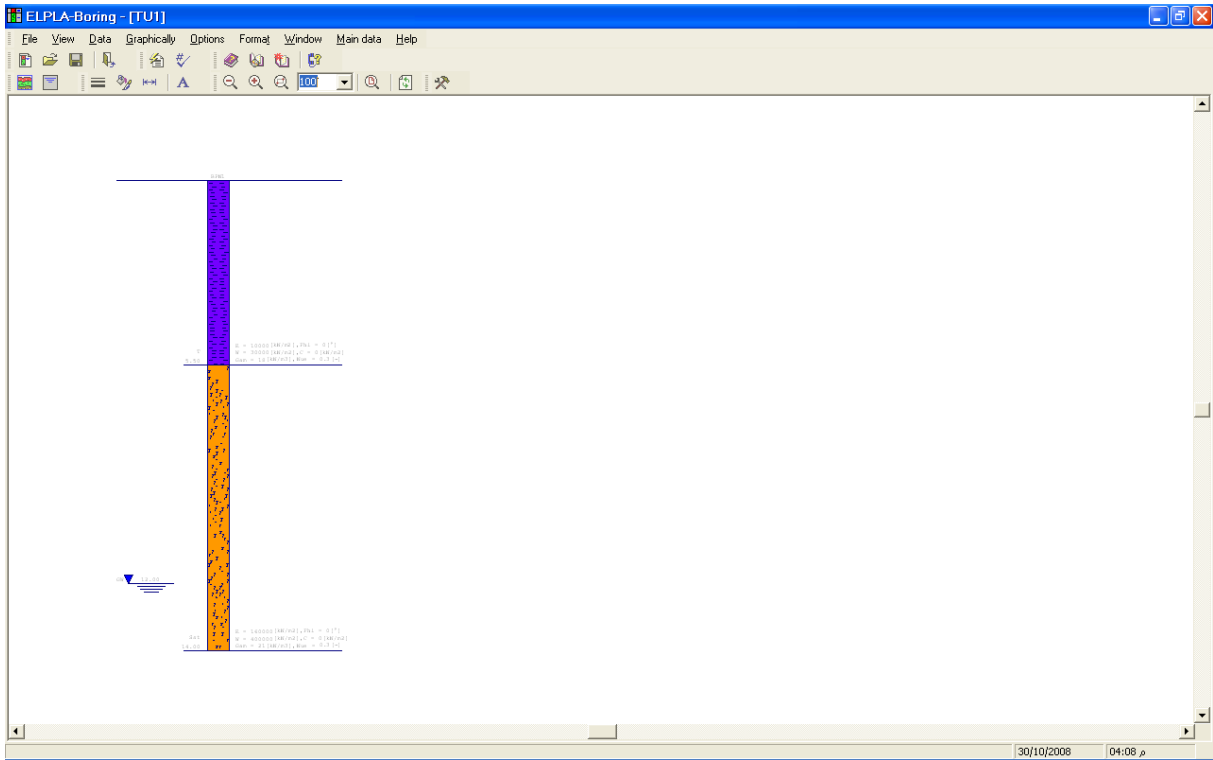
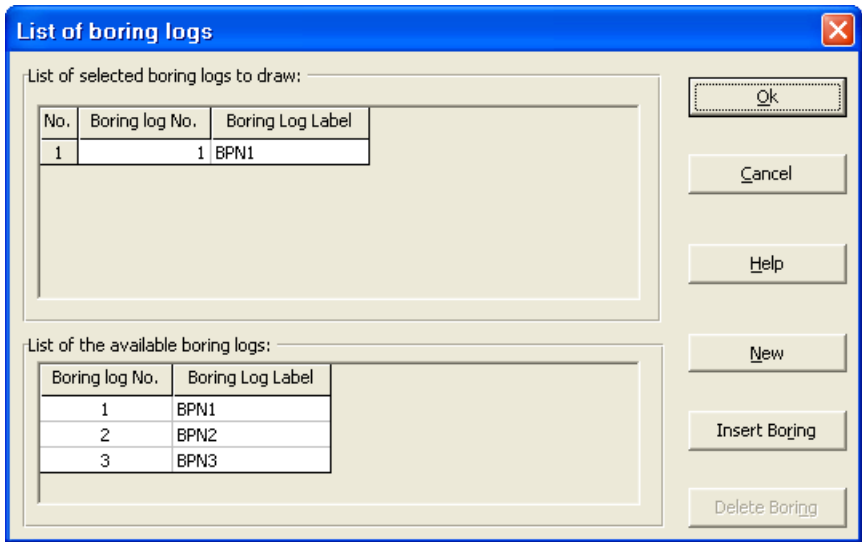

Figure 13-24 First boring log on the screen
Figure 13-25 "List of boring logs" list box
Now, after finishing the creation of boring logs, click "OK" button in "Soil data" dialog box in Figure 13-23 to see the defined boring logs on the screen where the user can control or modify the input data and parameters. As a default plot parameter, *ELPLA* displays only the first boring log on the screen, Figure 13-24.
To display all boring logs or specified boring logs on the screen, choose "Boring logs" command from "Graphically" menu in Figure 13-24, the following list box in Figure 13-25 appears.
- Select the boring log that is required to be displayed from the list of the available boring logs in Figure 13-25
- Click "OK" button in Figure 13-25. The selected boring logs appear on the screen to control or modify the boring data graphically, Figure 13-26